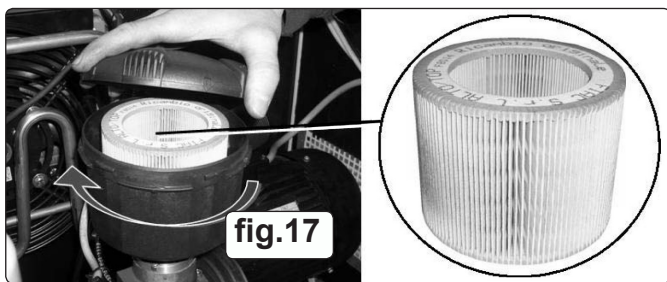

fig.17
- 7.5.2. Turn the top of the filter housing anti-clockwise and lift off. Lift out the old air filter, clean out the air filter housing and replace the air filter with a new one. Ensure the new filter is correctly seated within the housing. Place the top of the filter housing onto the housing itself in the same orientation that it was removed and turn clockwise to lock in place. See fig.17. Refit cabinet front panel.